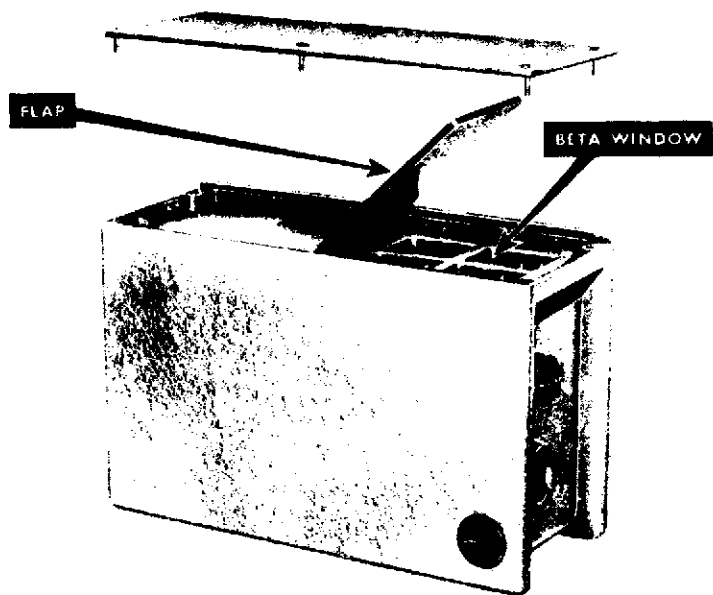

Fig. 7
- (1) Remove the instrument from its haversack and slacken the six screws on the underside to remove the base-plate (see fig. 7).
(1) Remove the instrument from its haversack, slacken the six screws on the underside to remove the base-plate and then fasten back the hinged flap to expose the beta window (see fig. 7 on page 16).
(2) Set the Range Switch to the most sensitive range, i.e. 0-3 r.
(3) Set the Supply Switch to 'On' or 'On with Lamp', as appropriate, and then ensure that there is no background reading before proceeding further.